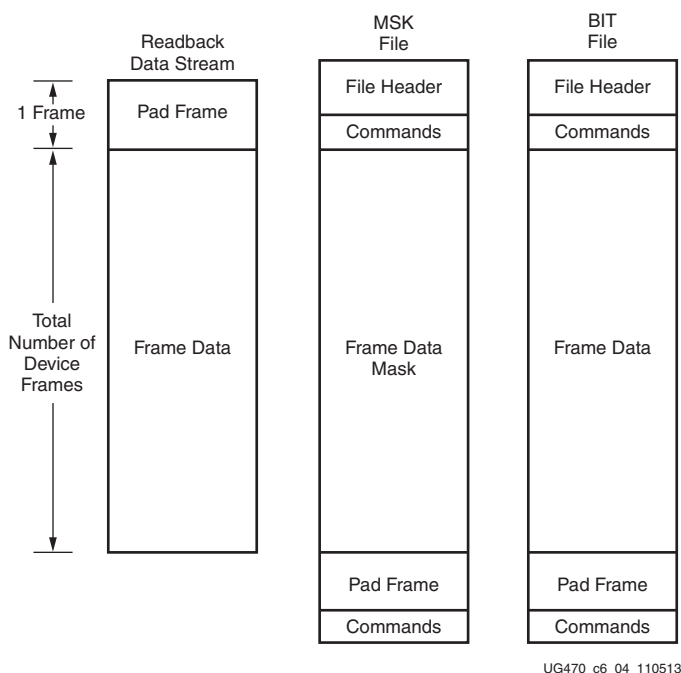

Figure 6-4: Comparing Readback Data Using the MSK and BIT Files
2. Compare readback data to the configuration BIT file, mask using the MSK file (see Figure 6-4). Another approach for verifying readback data is to compare the readback data stream to the frame data within the FDRI write in the original configuration bitstream, masking readback bits with the MSK file.